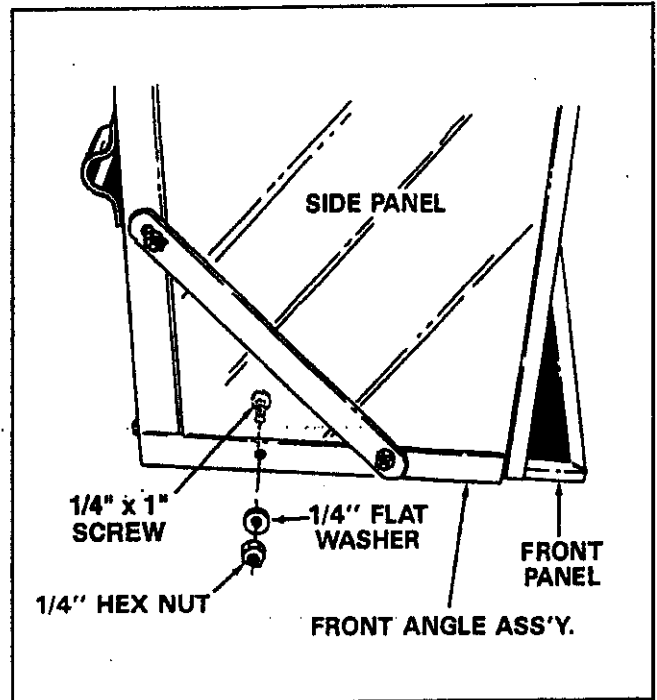

FIGURE 8
13. Assemble one 1/4" x 1" screw through bottom hole in side panel and front angle assembly. Secure with a flat washer and hex nut, making only finger tight at this time. Repeat for the other side panel. See figure 8.